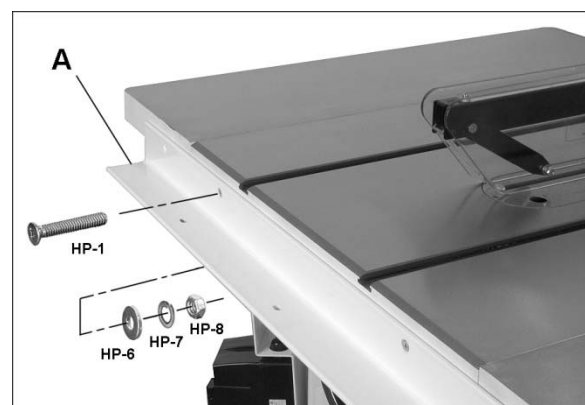

Figure 2
1. Identify the front rail (A, Figure 2), which is 2-1/2" x 2-1/2" with notches on one side and countersunk mounting holes on the other side.
2. Lightly secure front rail (A) to table with seven 1/4 x 1-1/2 screws, flat washers, lock washers and hex nuts (HP-1/6/7/8). Tighten just enough to hold rail next to table but loose enough to allow height adjustment.